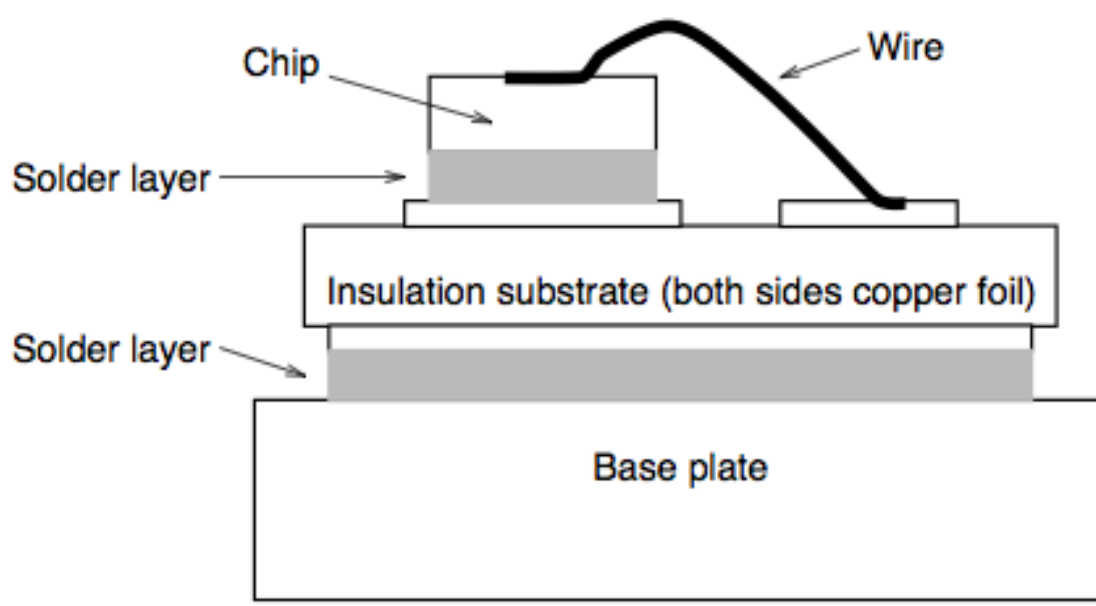

Fig.3: Sectional view of a solder contact module
- The components have been soldered (Fig.3)